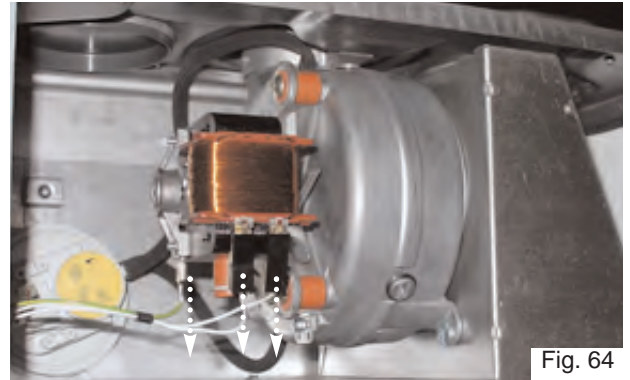

Fig. 64
4. Remove the screw securing the pressure switch to the chassis (see Fig. 64);
2. Disconnect the wire connectors (see Fig. 64);